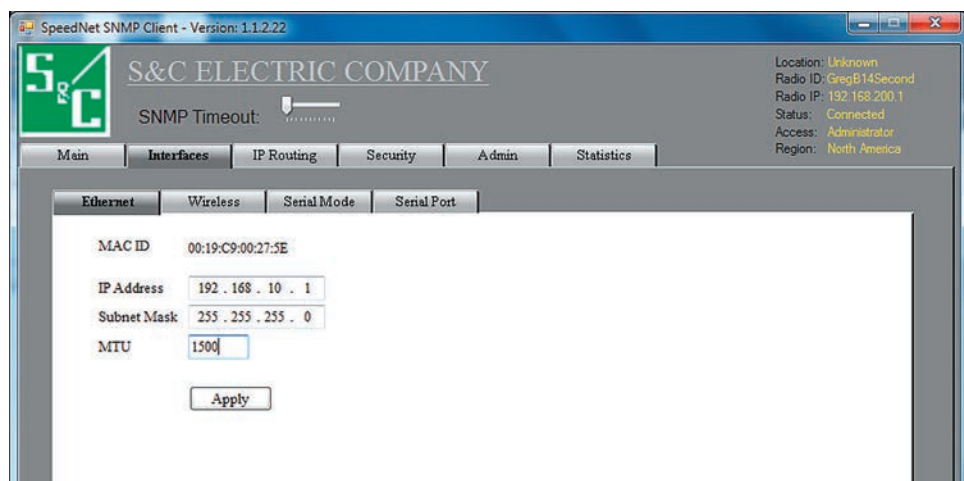

Figure 7. Ethernet configuration dialog box.
STEP 19. The *Interfaces* screen will open. Click on the **Ethernet** tab. See Figure 7.